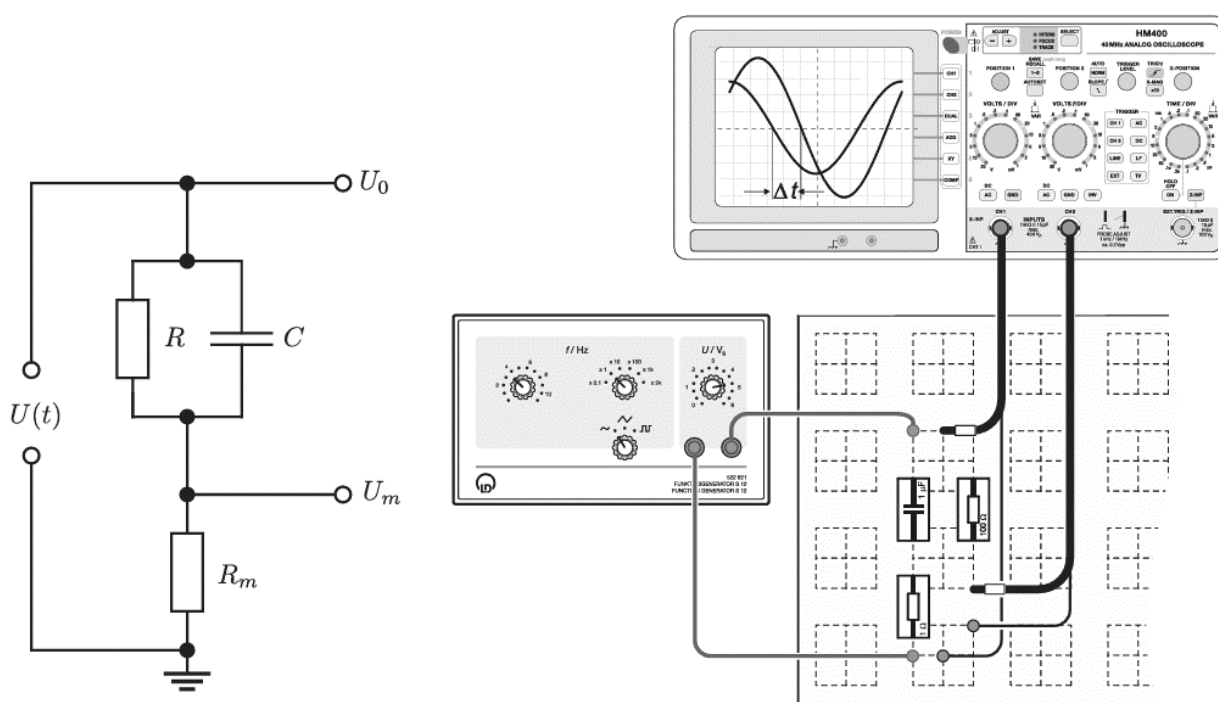

Fig. 36.5. Experimental setup for determining the impedance in circuits with capacitors and ohmic resistors in parallel connection
7. Connect the 10 μF capacitor in parallel to the 100 Ω resistor (Fig. 36.5).